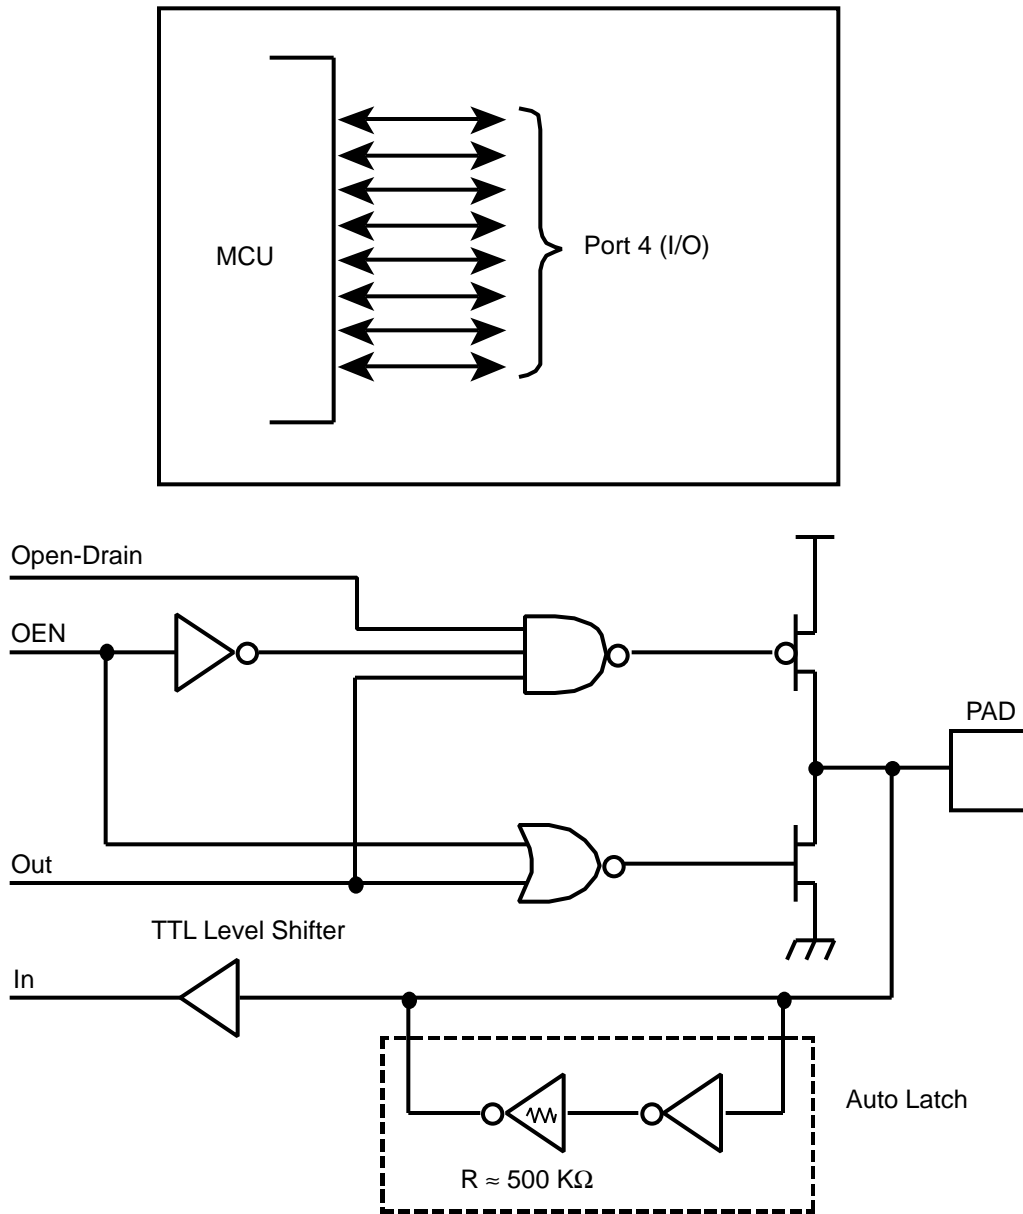

Figure 18. Port 4 Configuration
**Port 4** (P47-P40). Port 4 is an 8-bit, bit programmable, bi-directional, CMOS-compatible port. Each of these eight I/O lines can be independently programmed as an input or output or globally as an open-drain output. Port 4 is always available for I/O operation (Figure 18). Port address (F)02.
**Port 5** (P57-P50). Same as Port 4. Port address (F)04.
**Port 6** (P63-P60). Same as Port 4. (Note: this is a 4-bit port, bits D3-D0.) Port address (F)07.
**Register File.** The Register File consists of four I/O port registers, 236 general-purpose registers and 16 control and status registers (Figure 18). There are eight further registers for I/O ports 4, 5 and 6 in the Expanded Register File (Bank F, R9-R2) (Figure 20).